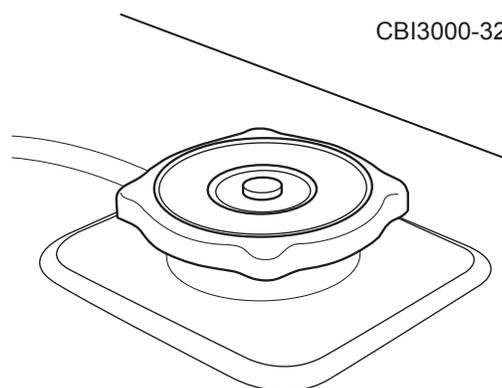

Figure 6.38 - Engine Coolant Fill Cap
2. Remove Fill Cap - Slowly remove the engine coolant fill cap from the top of the radiator (Figure 6.38). This allows the coolant to flow freely once the drain is opened. Ensure no contaminants enter the cooling system.